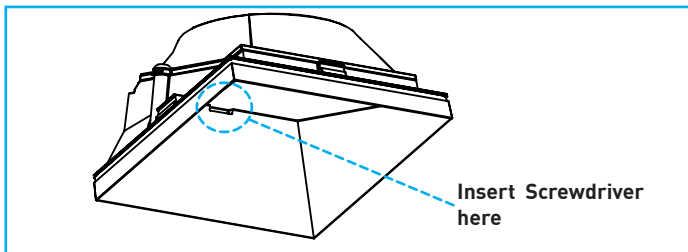

Fig.55
- Grasp baffle using soft gloves or with clean soft cloth and remove by pulling down or inserting small flat head screwdriver to wallwash baffles and carefully prying down as shown in *Fig.55*.
- A. Remove baffle by pulling down or inserting small flat head screwdriver to wallwash baffles and carefully prying down as shown in *Fig.55*. Remove optic (see D-1 on page 11).